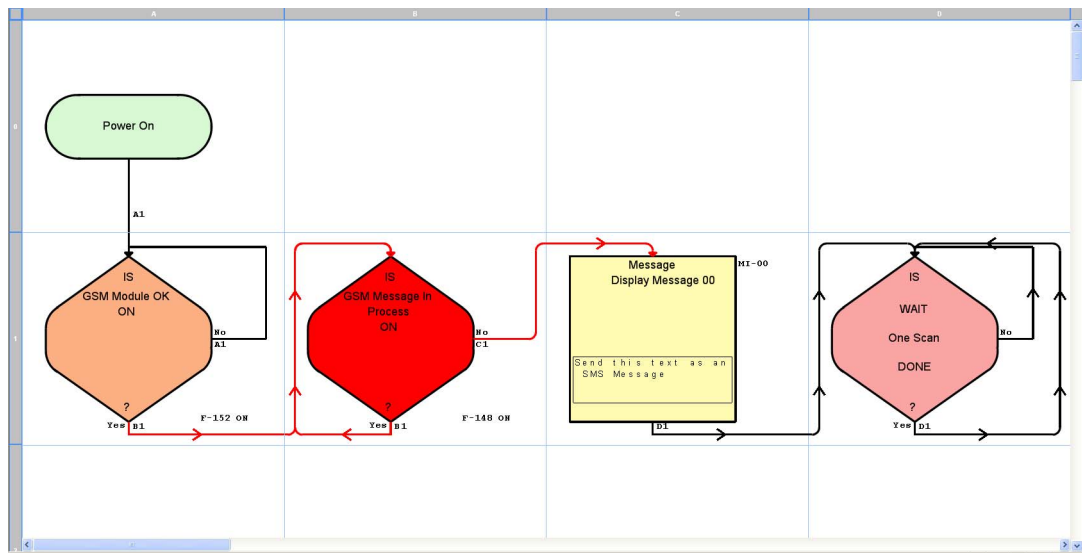

Figure 5-8 Flow chart to send an SMS message
11. Create the flow chart shown in Figure 5-8 using the chart editor.